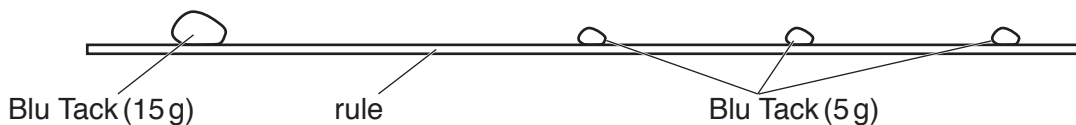

Fig. 2.1
1. The track should be made from two 1.0 m rules with mm divisions. Three pieces of Blu Tack each of approximate mass 5 g and one piece of approximate mass 15 g should be placed along the length of one surface of one of the rules as shown in Fig. 2.1.